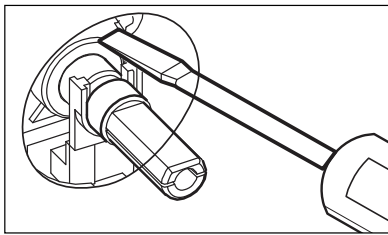

Figure 13
A) Burners on the hob (fig. 13)